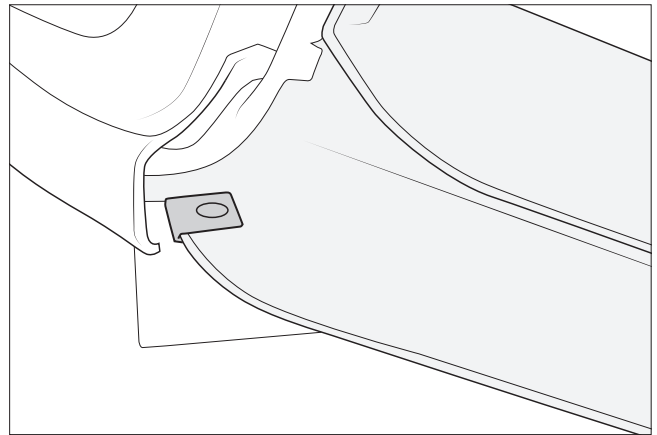

Figure 2
2. Install supplied M4 U-nuts onto the grill supports (fig. 2).